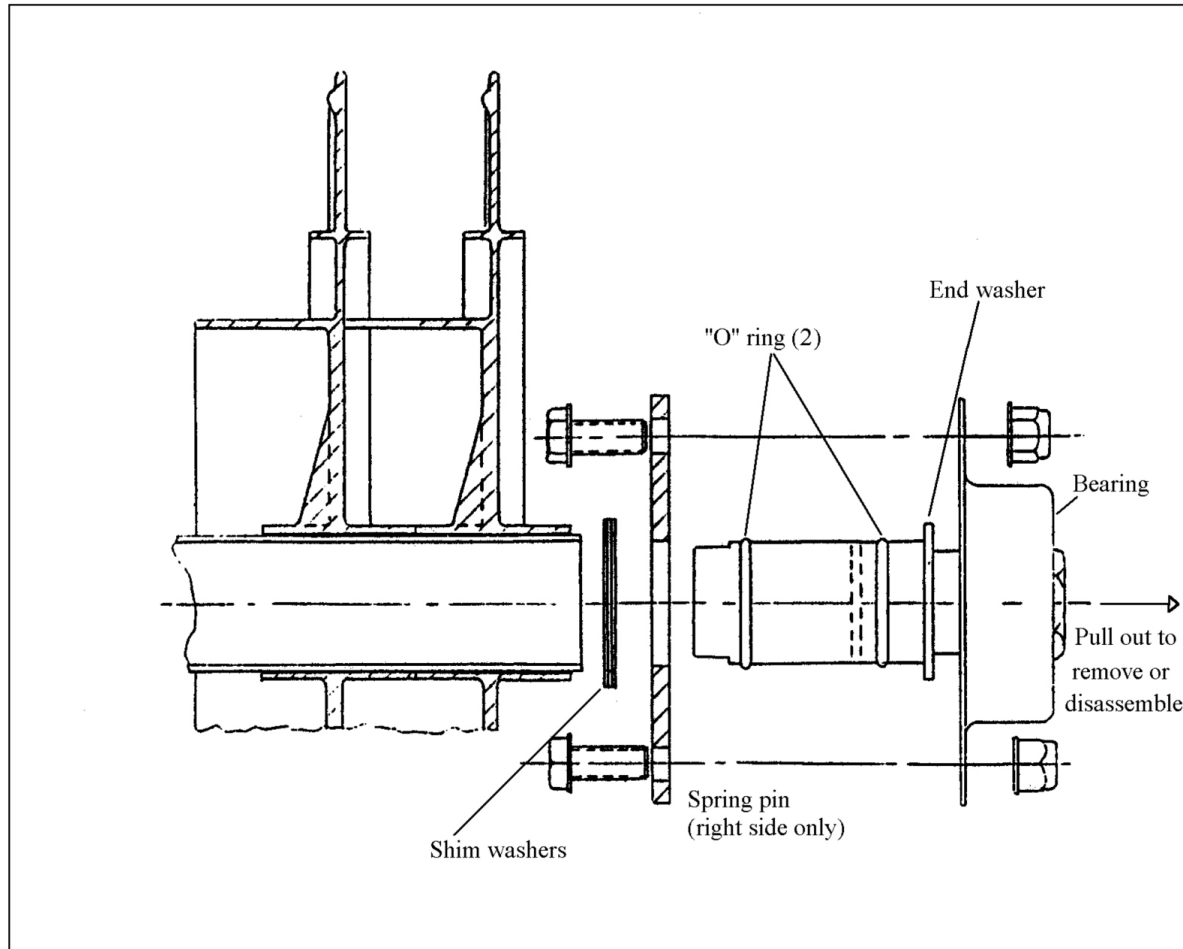

Figure 6: Disc spool and picker frame, disassembled
3. Pull out one axle bearing as a unit, with plugs, from the axle (see Figure 6).